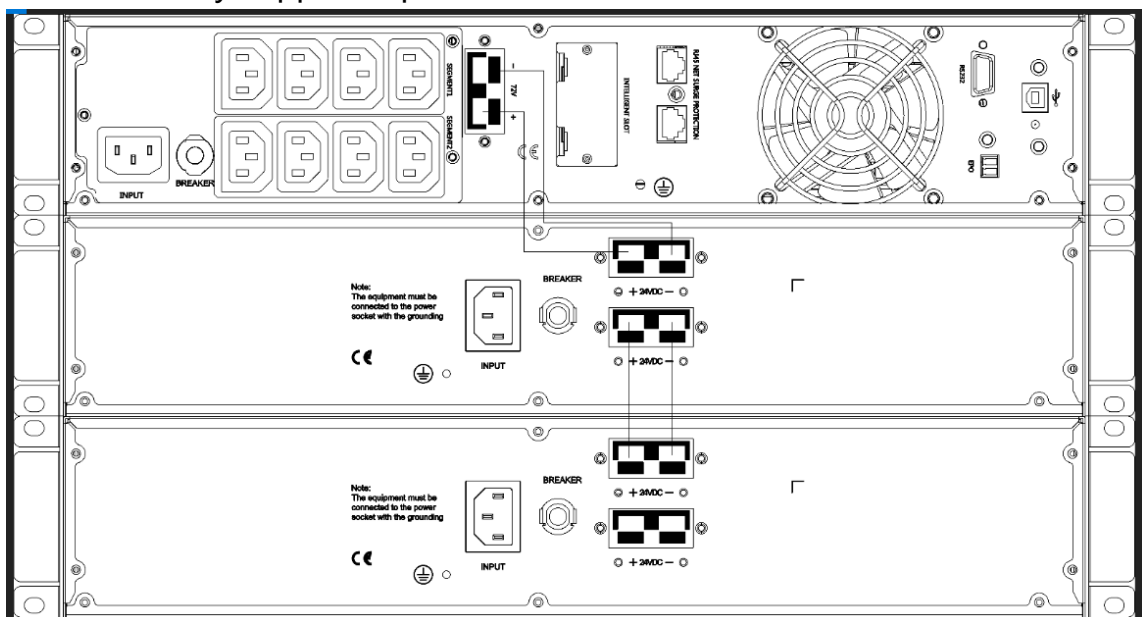

Figure 9 The installation for UPS and External battery boxes
- **The installation between UPS and External battery boxes can be referred to Figure 9**
- (1) Remove the ups & external Battery boxes Battery Terminal cover plate;
- (2) Remove the standard battery connection cable from the battery box;
- (3) Connect the corresponding voltage battery box according to the UPS battery voltage;
- (4) External Battery Supports up to 4 PCS.